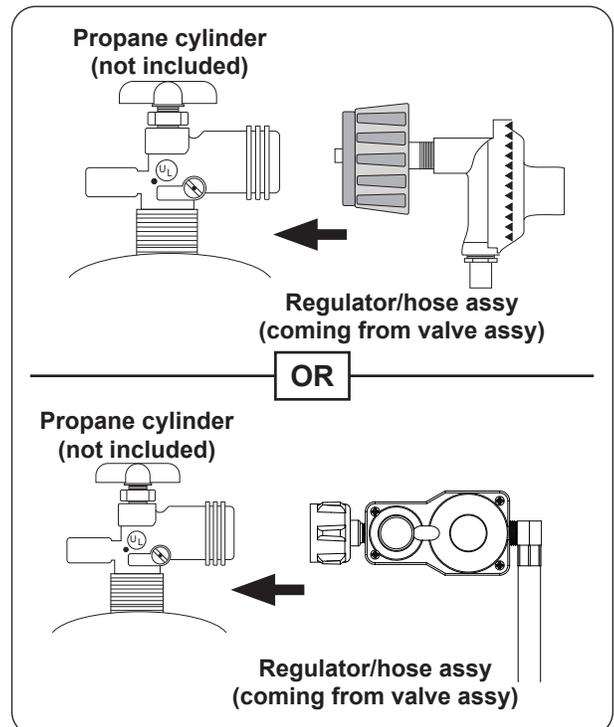

Fig. 37-2 Connecting hose assy to L.P. cylinder
2. Attach the regulator end of the hose assembly to a propane cylinder (not included) and tighten (see Fig. 37-2).